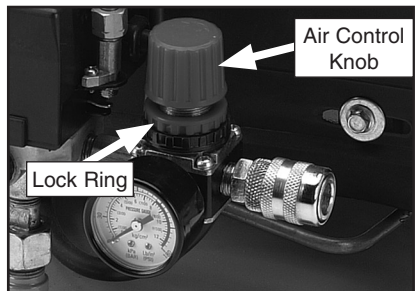

Figure 8. Tool air control knob.
1. Adjust the air control knob, shown in **Figure 8**, to set the PSI that will be delivered to your tool. Turn the knob clockwise to increase the pressure or counterclockwise to decrease the pressure.
2. Rotate the lock ring shown in **Figure 8** against the bottom of the air control knob to prevent changes in the air pressure.